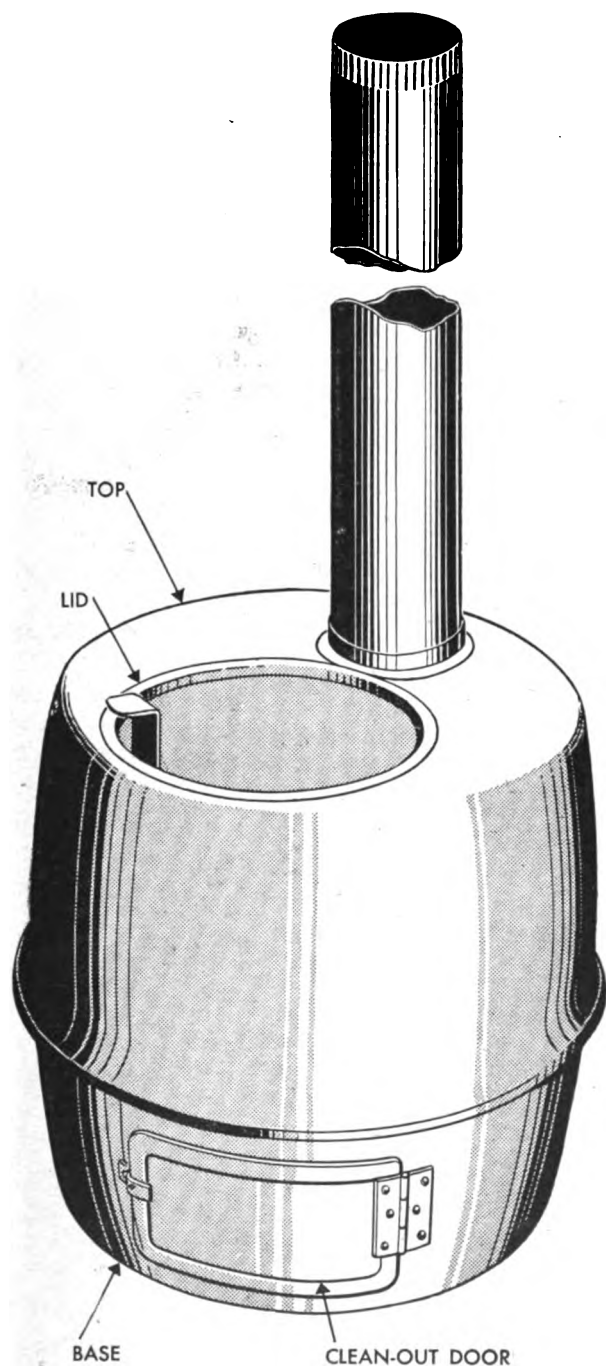

Figure 84. Stove, tent, M1941 (65-N-2500).
a. Tent stove, M1941, complete (stock No. 65-N-2500) (see fig. 84) is a heating stove which may be operated with wood or coal, or with an oil burner. Conversion from one type of operation to the other may be quickly and easily accomplished.